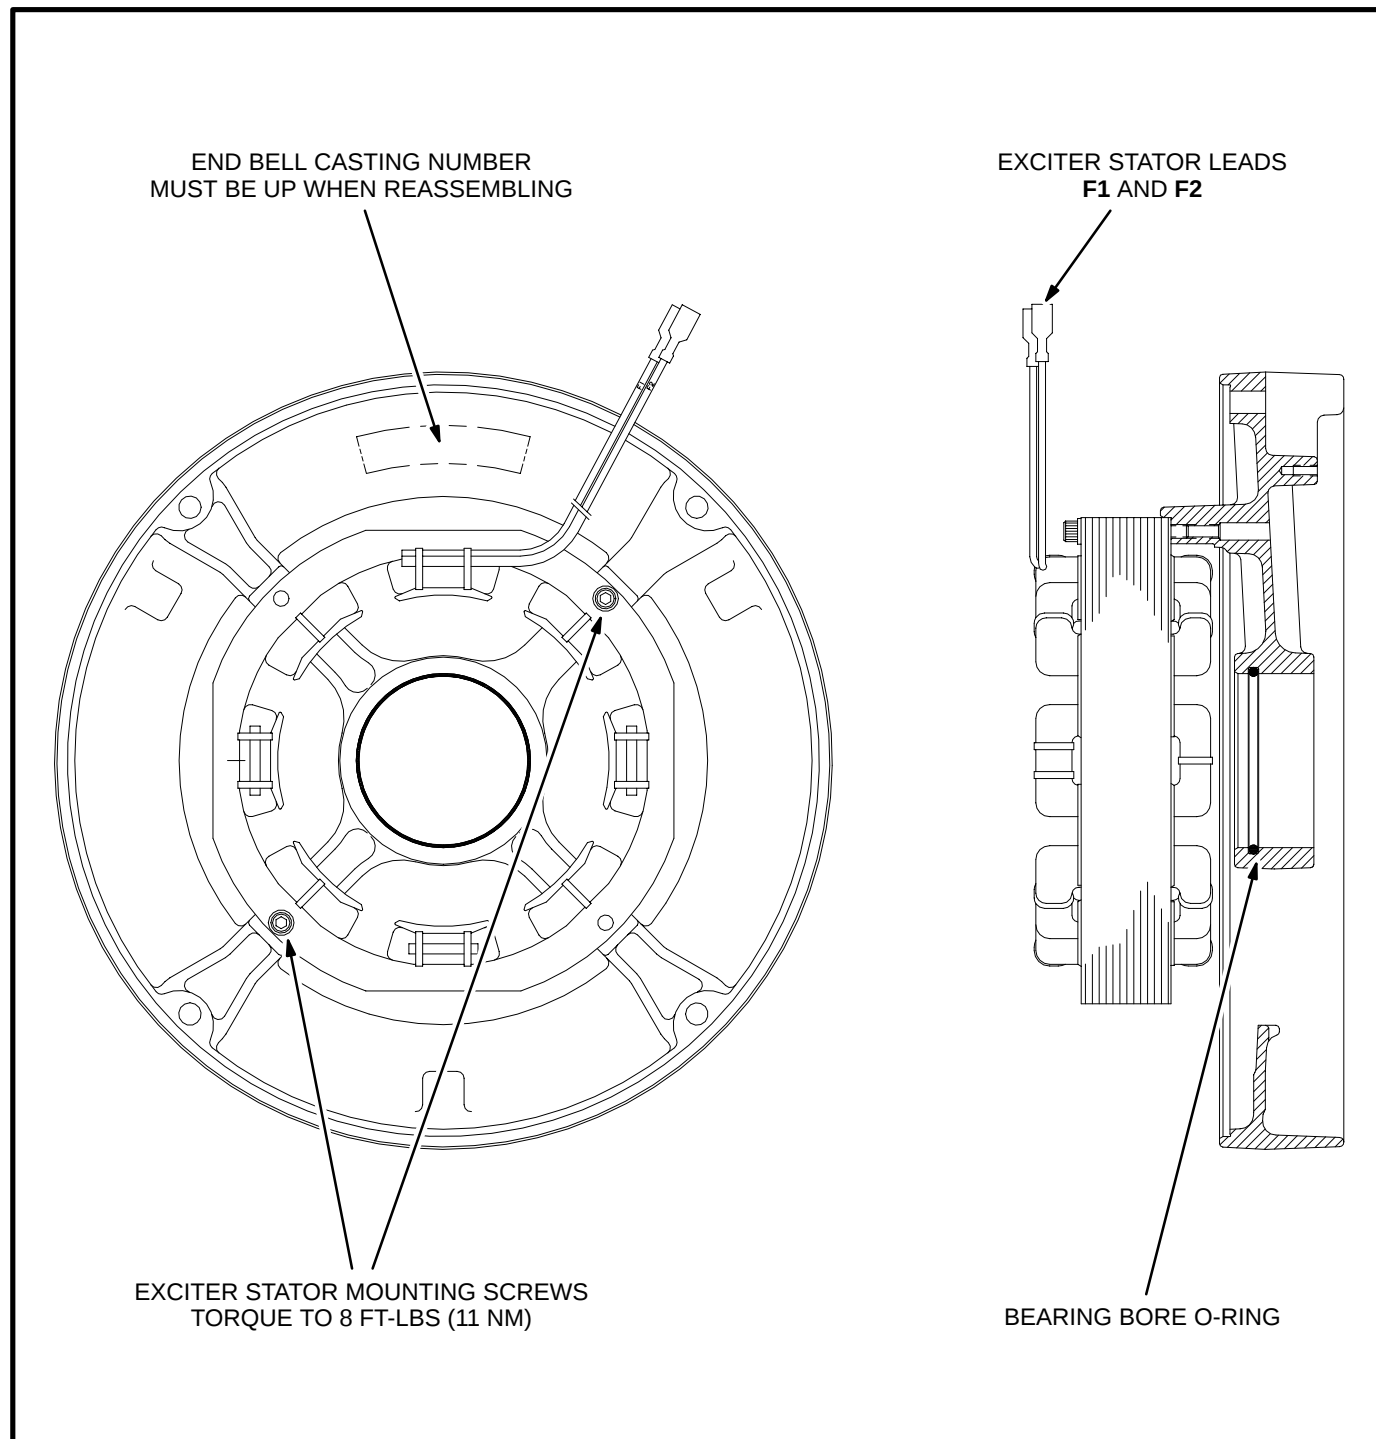

FIGURE 5-2. EXCITER STATOR AND END BELL
3. Mount the exciter stator in the end bell, and torque the two mounting screws to 8 ft-lbs (11 Nm). The leads must exit away from the end bell and be in the top half of the assembly (see Figure 5-2).